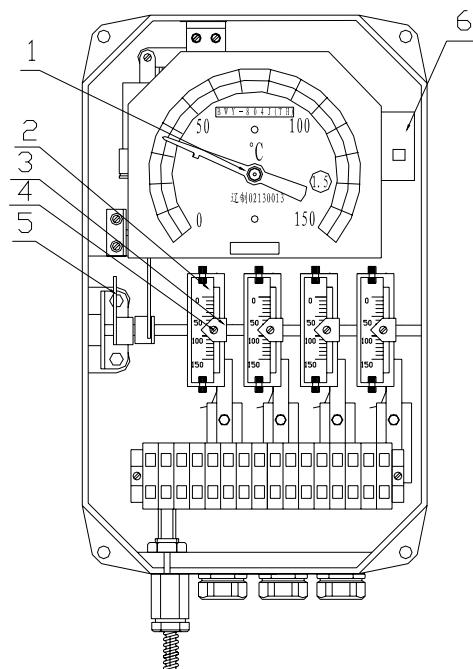

Figure 4: Structure Drawing
- Figure 4. Structure Drawing..... ( 6 )**